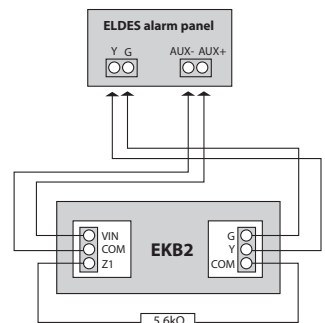

Fig. No. 6
5. Wire up keyboard terminals to ELDES alarm system respectively – **Vin** to **AUX+**, **COM** to **AUX-**, **Y** to **Y**, **G** to **G** (see Fig. No. 6).
6. Z1 and COM terminals must be connected with resistor of 5,6kΩ nominal (see Fig. No. 6). As keyboard zone **Z1** is disabled by default, it can be enabled by SMS, keyboard and *ELDES Configuration Tool*. Keyboard zone **Z1** must be enabled and resistor connected even if the tamper button alone is required.